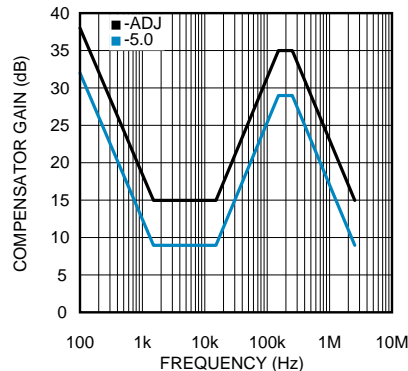

Figure 10. Compensator Gain
The complete transfer function for the regulator loop is found by combining the compensation and power stage transfer functions. The LM22673 has internal type III loop compensation, as detailed in Figure 10. This is the approximate "straight line" function from the FB pin to the input of the PWM modulator. The power stage transfer function consists of a dc gain and a second order pole created by the inductor and output capacitor(s). Due to the input voltage feedforward employed in the LM22673, the power stage dc gain is fixed at 20 dB. The second order pole is characterized by its resonant frequency and its quality factor (Q). For a first pass design, the product of inductance and output capacitance should conform to Equation 2.